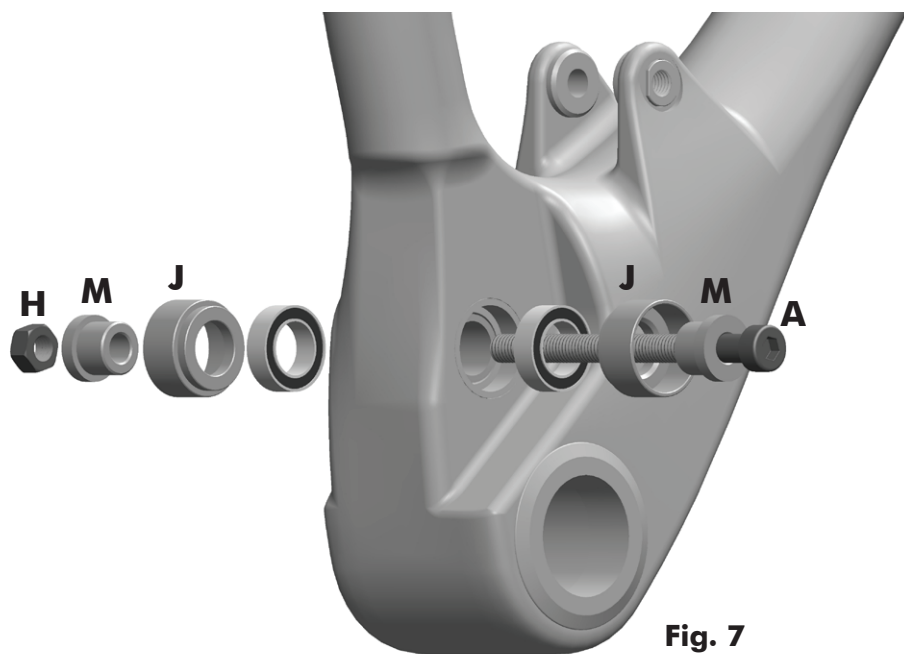

Fig. 7
2. To reassemble the Main Pivot, orient the tools as shown in Fig. 7. Tighten the screw to press the bearing into the Chainstay Yoke. Repeat for both sides.
2. To reassemble the Main Pivot, orient the tools as shown in Fig. 7. Tighten the screw to press the bearing into the frame. Remember to insert the internal spacer/sleeve before repeating this step for the second main pivot bearing.